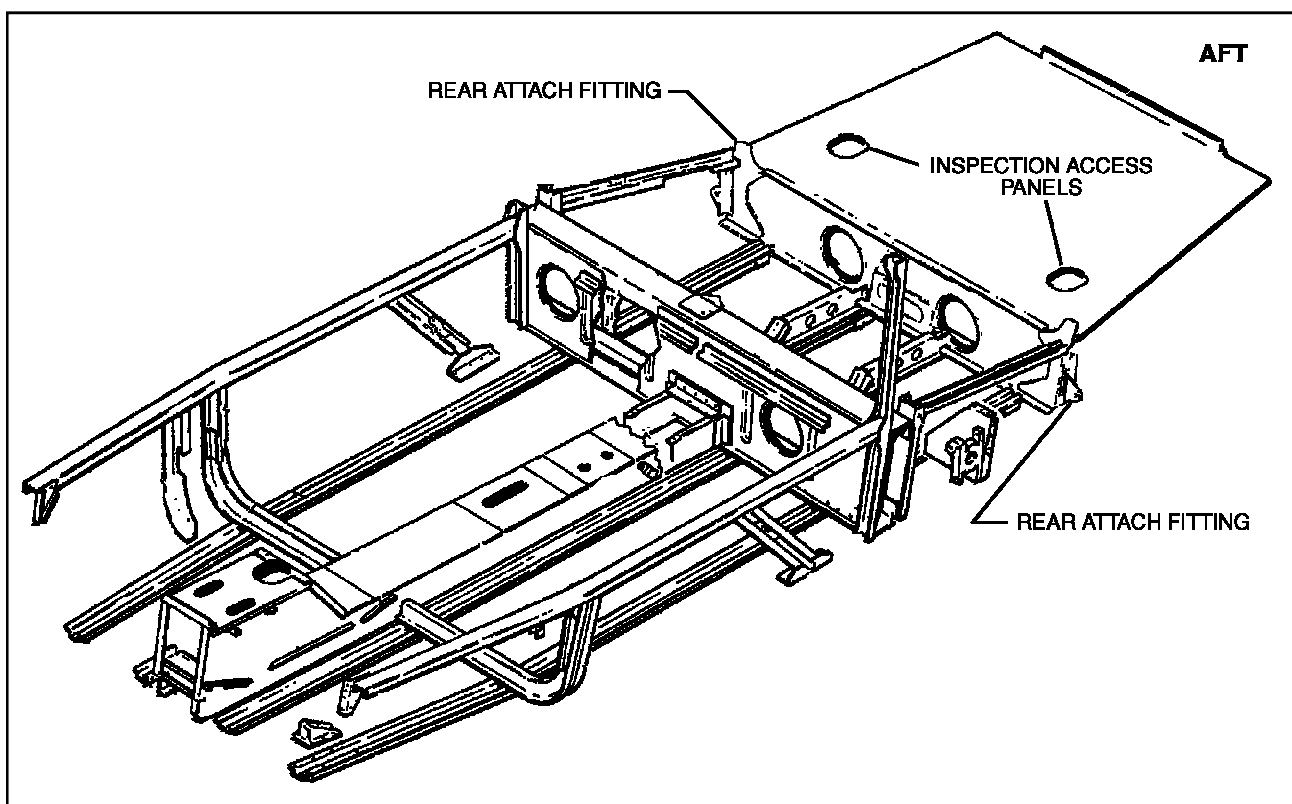

Figure 3-3. Wing Attach Fittings
- 1 Gain access to the left and right aft wing attach fittings. (See Figure 3-3.)
(c) Removal and Installation Procedure (if required). (See Figure 3-3.)